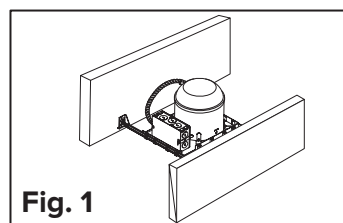

Fig. 1
(A) Joist-type ceiling - Extend hanger bars between joists. Position the fixture temporarily by hammering the nail into the joists, Fig. 1, then secure permanently with nails. Hanger bars should be level with the bottom of the joists.